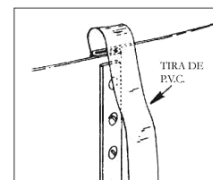

Fig. 3
- a) Using a strip of PVC, cover the bolt heads on the inside of the pool wall to protect the liner from rubbing against objects, which is the main cause of tears in the liner (fig. 3). Stick the strip with glue for PVC.